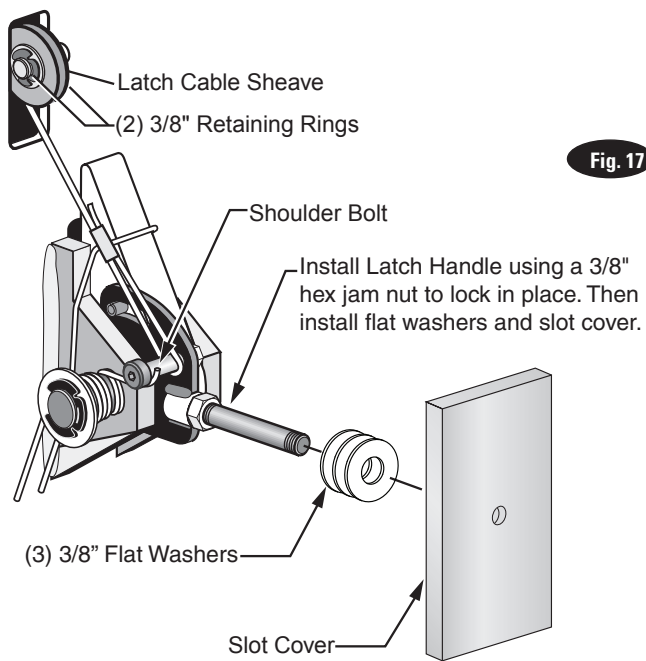
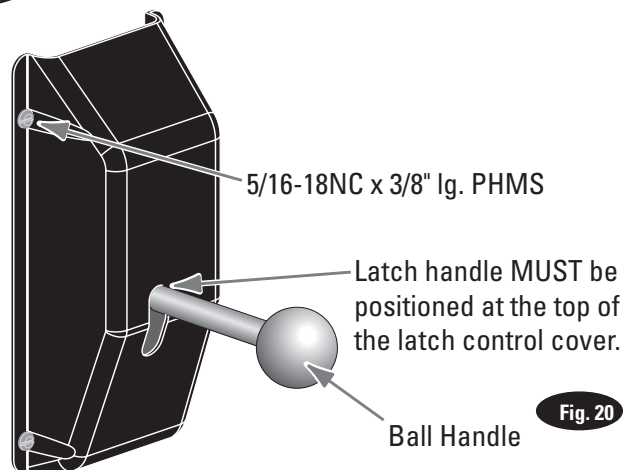

Fig. 17
Fig. 20
- Install latch cable sheave and retaining rings in upper slot of power unit column as shown, Fig. 17.
- Slip loop end of cable over end of shoulder screw on right side latch control plate, Fig. 17.
- Feed the other end of the cable through the latch cable sheave slot making sure that the cable is running under the bottom side of the latch cable sheave and inside the right column, Fig. 17.
- At this point you **MUST** install the latch handle, jam nut, and right column latch cover Fig. 17 & Fig. 20. Install latch handle ball, Fig. 20.